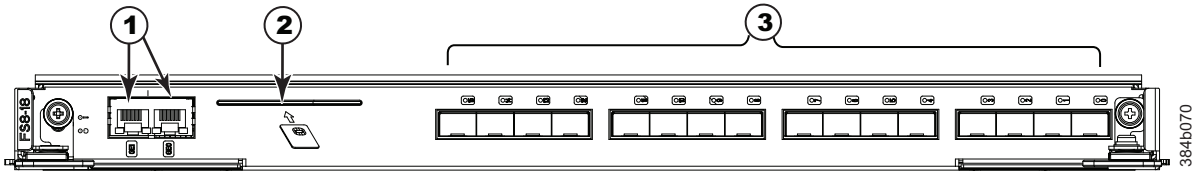

Figure 63. FS8-18 encryption blade
- Figure 63 on page 164 shows an FS8-18 encryption blade